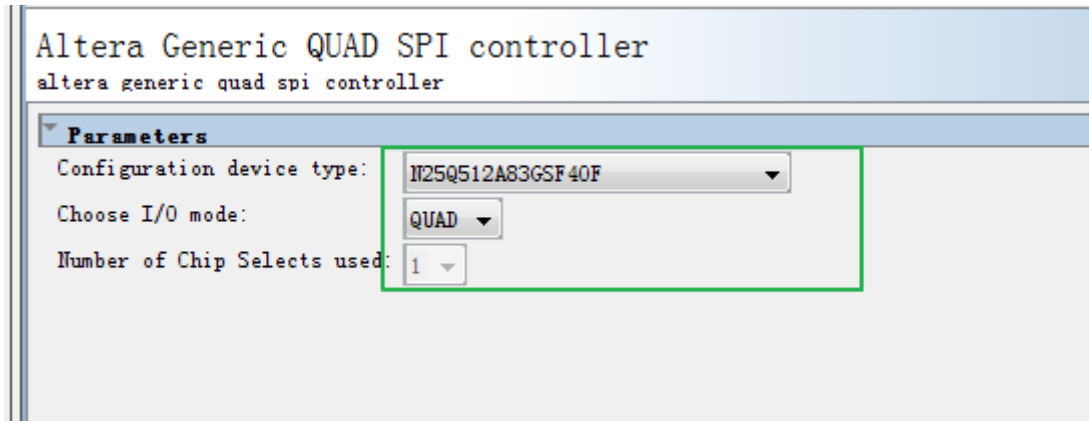

Figure 7-3 Altera QSPI Flash Controller Setting In Qsys
- IF the sof contains a Nios II processor. The hardware design must contain an Altera QSPI Flash controller as shown in **Figure 7-3**.